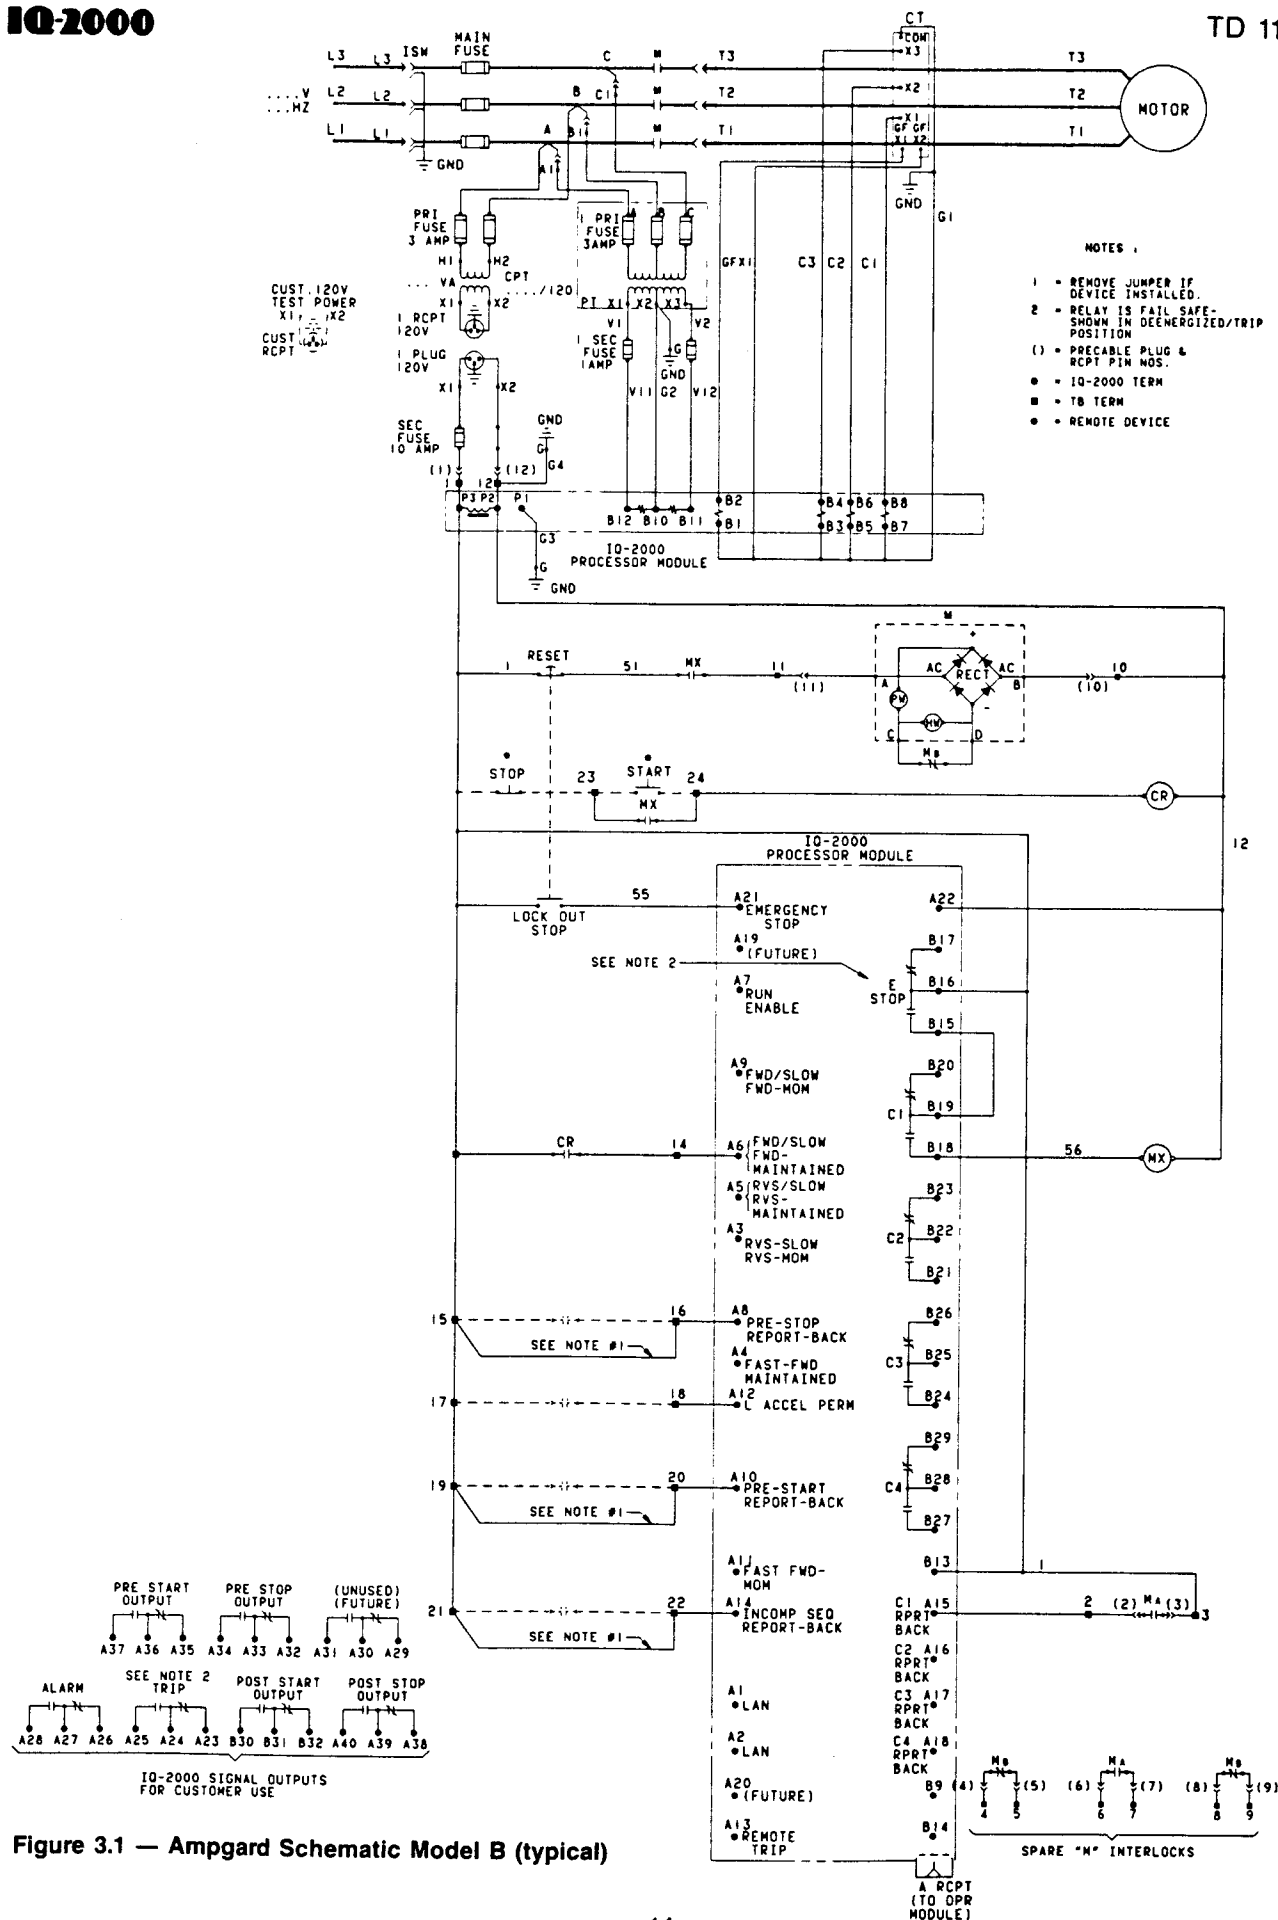

Figure 3.1 — Ampgard Schematic Model B (typical)
3.1 Ampgard Schematic — When the starter is supplied by Westinghouse, the wiring between the Ampgard starter and the IQ-2000 is factory installed. Each specific hardware configuration is shown on a unique Ampgard Schematic shipped with the unit. (A typical Ampgard Schematic is shown in Figure 3.1.) The drawing is for a Class 11-202 induction, full-voltage, non-reversing unit.